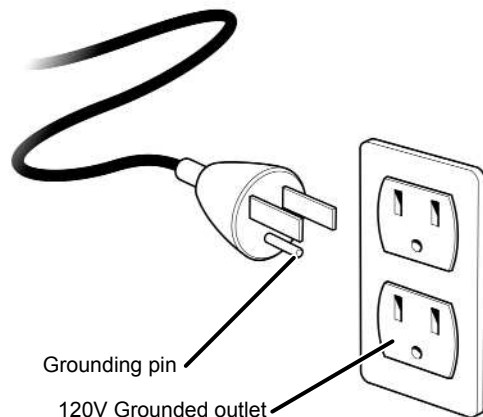

Fig. 1
6. This air compressor is intended for use on a circuit that has an outlet like the one shown in the figure 1. It also has a grounding pin like the one shown. This product must be grounded.